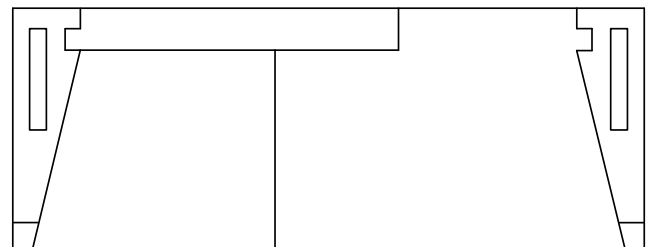

FIGURE 50
**Step 5:** Build the MAGNUM Model 72 firebox by setting a 38 1/2" M67 Back Wall (from Step 3) on the base plate with its tongue end interlocked into the firebox side wall positioned at the end of the base plate (Figure 50).
The square cut end of this 38 1/2" M67 back wall component should sit flush with the back of the base plate with its cut end past the centerline butt joint in the base plate arrangement (Figure 50).